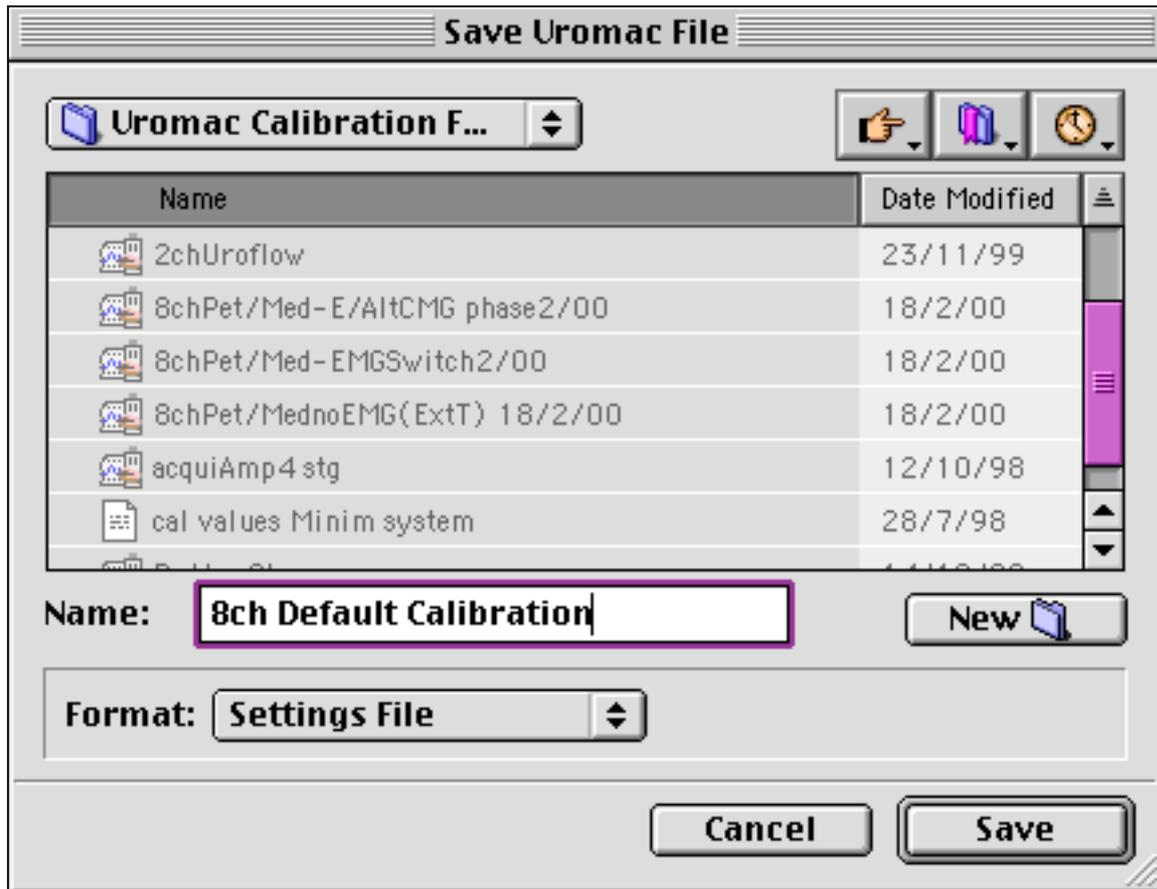

Figure 7
3. Navigate to the destination 'Calibration Folder' – usually either in Documents Folder in the root directory or in the Uromac vXXXX Folder. See Figure 7